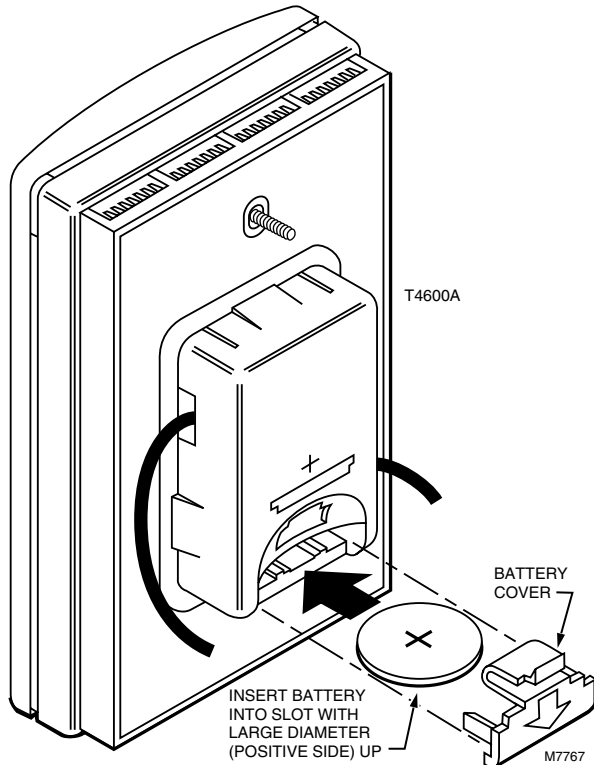

Fig. 3. Installing battery.
5. Install the battery. See Fig. 3.